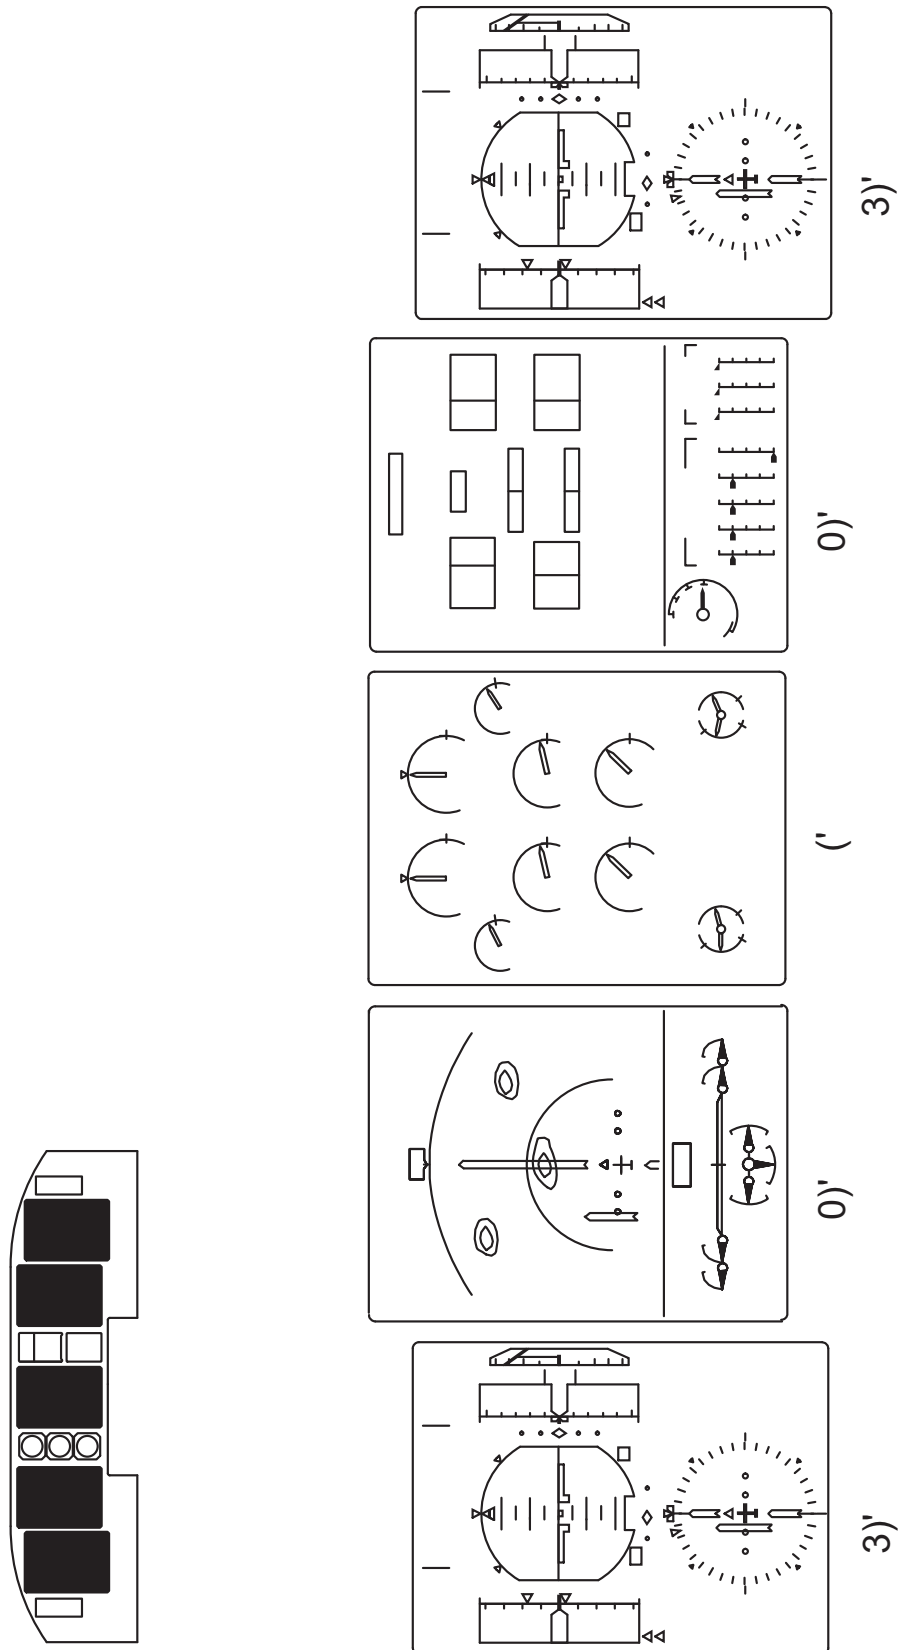

Figure 12.12-36 MFD2 Selected to ELEC Page
- ELEC (default page) (Figure 12.12-36, 12.12-37)